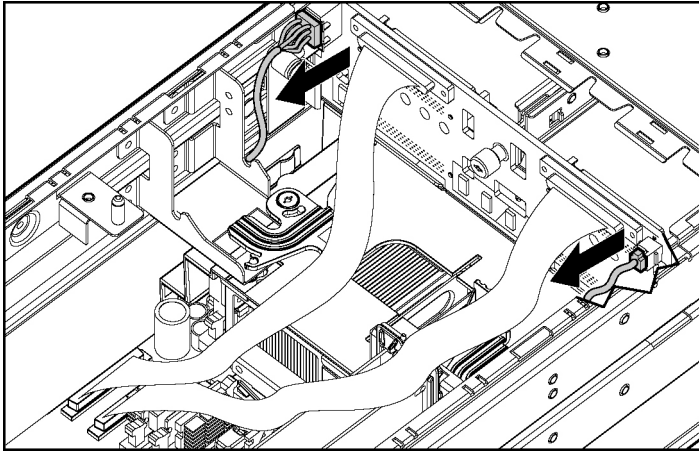
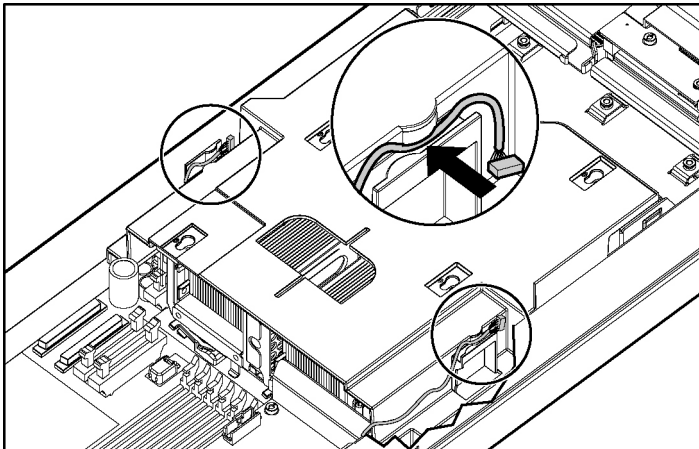

Figure 1-8: Disconnecting the SCSI I2C cable and the SCSI backplane power cable
Figure 1-9: Attaching cables to the processor baffle
6. Disconnect the SCSI I2C cable from the SCSI backplane board, and snap the cable into the processor baffle. Refer to Figure 1-8 and Figure 1-9.
7. Disconnect the SCSI backplane power cable from the SCSI backplane board, and snap the cable into the processor baffle. Refer to Figure 1-8 and Figure 1-9.